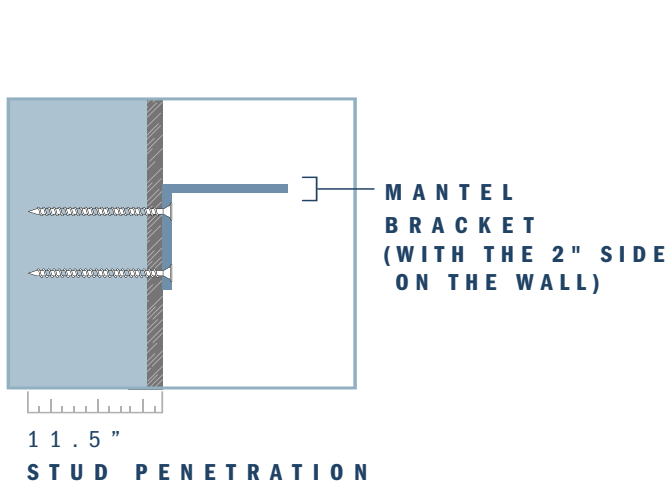

Figure 2: Side Mount
*Step 4.* After identifying the correct height for attaching the mantel, draw a horizontal line. Install centered mounting bracket (with the 2" side on the wall) with 2 sharp point screws per stud. Use 1/8" drill bit to drill holes in the mounting bracket. You will need two people to place the mantel on the bracket and check for level, take the mantel off and stabilize the mounting bracket with remaining screws. **See Figure 2.**